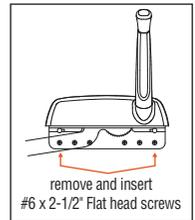

fig. 20 - Operation bracket
f. To fasten the sill use two #6 x 2-1/2" Phillips Flat head screws. Remove two screws, one from each side of the operator bracket. Place a small amount of silicone caulk in the screw hole and insert screws through those holes into the rough opening. (**fig. 20**)